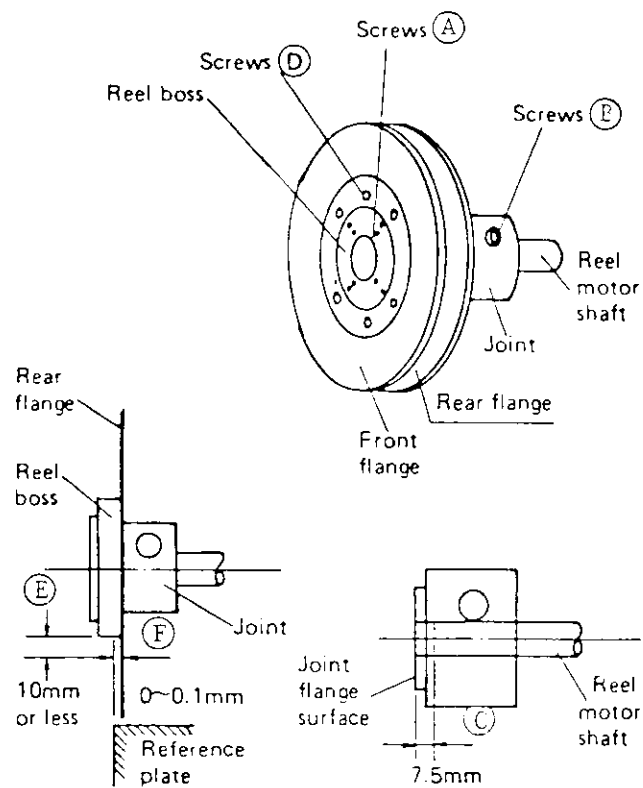
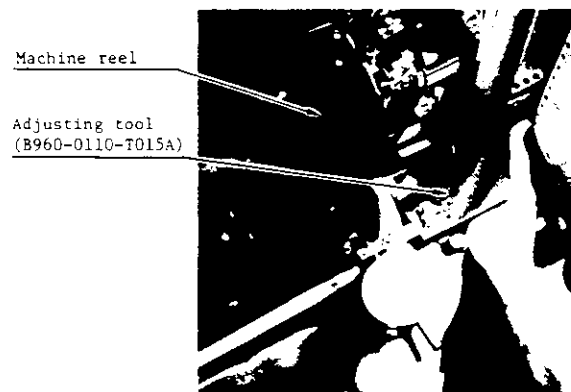

Figure L.25 Machine reel
Figure L.26 Adjustment of machine reel
- (1) Remove the three screws (A) shown in Figure L.25, and remove the machine reel.
- (2) Remove screw (B), and remove the joint from the reel motor shaft.
- (1) Use calipers to measure the distance between the joint flange surface and the reel motor shaft (C) in Figure L.25. Adjust the distance to 7.5 mm, and tentatively secure the joint with the screw (B).
- (2) Secure the machine reel with the screws (A). Remove the screws (D) and remove the front flange.
- (3) Remove the left threading channel.
- (4) Install the adjustment tool (B960-0110-T015A) on the main column surface, as described in L0180. The short pointer of the dial gauge must indicate 4 mm or 5 mm.
- (5) Place the adjusting tool on the reference plate, and hold it so that the dial gauge pin comes into contact with the rear flange at (E) in Figure L.25.
- (6) While manually rotating the machine reel, check whether the dial gauge reading, including fluctuation, is within the specified range.
- (7) Slightly pull out the whole assembly prior to the adjustment, and adjust the distance (F) into the specified range by gradually pushing in the assembly while measuring the distance.
- (8) Adjust the distance between the rear flange and the reference plate (F) in Figure L.25 to from 0 to 0.1 mm using the adjusting tool (B960-0110-T010A) shown in Figure L.26.
- (9) Tighten joint screw (B).
- (10) Install the front reel flange.